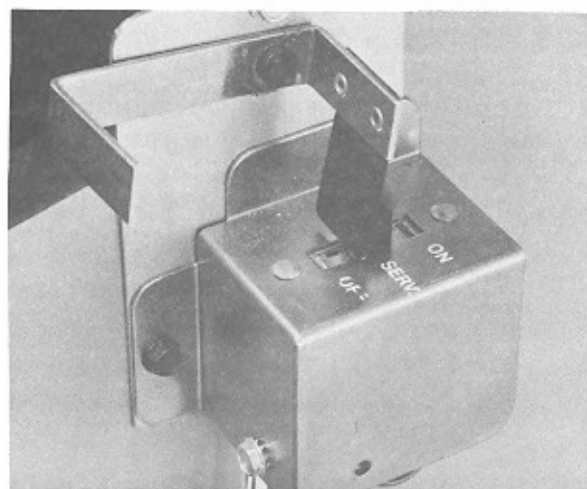
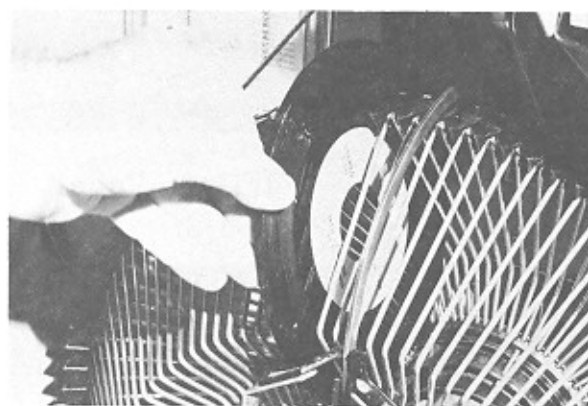

Figure 3-1. Service Switch
Figure 3-2. Changing A Record
2. Move the Service switch to the SERVICE position (Refer to Figure 3-1 and Figure 3-2).
4. Install records as shown in Figure 3-2.